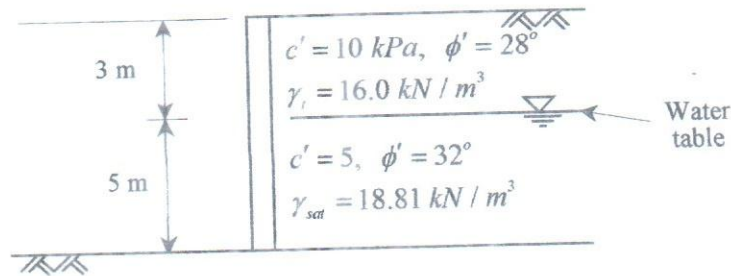

Fig. 7
7. Answer the following questions for the retaining wall shown in Fig.7. Consider there is no friction between the wall and the soil. Use, $\gamma_w = 9.81$ kN/m³. (36)